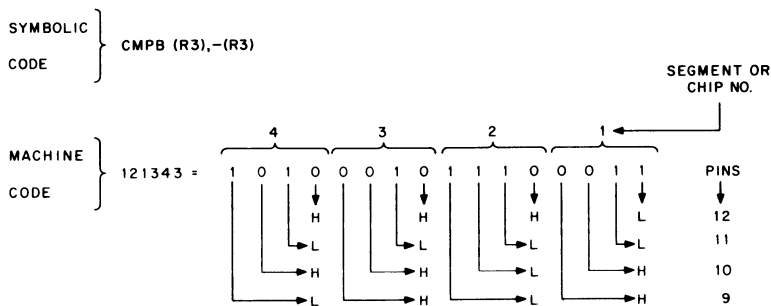

Figure 18-1 MRV11-AA Data Format
**Word Format** — Each PROM word, when read by the processor, is stored in four 4-bit slices in four separate PROMs. Each word is simultaneously addressed and produces its respective 4-bit portion of the 16-bit word that is read. For example, consider the CMPB instruction. Its machine code, using the addressing modes shown, is  $12134_8$  or  $101000101110001_2$ . The binary bits are stored in PROMs numbered from 1 to 4. Output pins, as indicated, will yield the read data bits for this instruction when addressed. The MRV11-AA data format is illustrated in Figure 18-1.